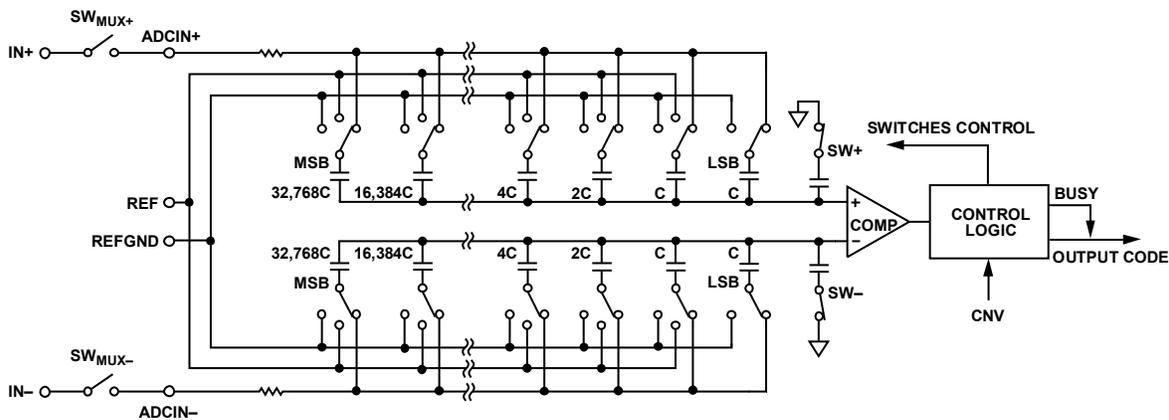
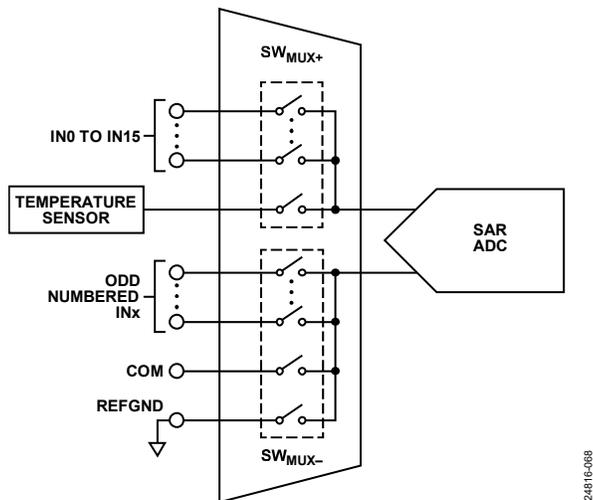
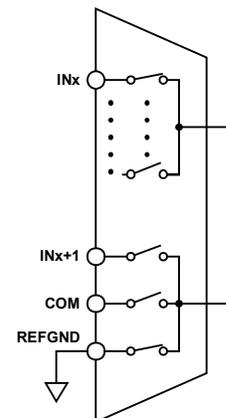

Figure 61. ADC Simplified Schematic
Figure 65. Multiplexer Simplified Schematic
Figure 66. Channel Configuration Option A
The AD4695/AD4696 contain an SAR-based ADC core that utilizes a charge redistribution digital-to-analog-converter (DAC) to quantize the applied input voltage to an output code. Figure 61 shows a simplified schematic of the AD4695/AD4696 SAR ADC core.
The analog inputs and the temperature sensor are connected to the capacitor array inputs (ADCIN+ and ADCIN-) via the internal low crosstalk multiplexer, represented by SWMUX+ and SWMUX- in Figure 61. The multiplexer switches are controlled by the internal channel sequencing logic and are updated once per conversion (see the Multiplexer section and the Channel Sequencing Modes section).
A low crosstalk analog multiplexer routes the signals from the analog input pins to the ADC core inputs. The impedance of the analog inputs are modeled as the parallel combination of the pin capacitance ( $C_{PIN}$ ) and the network formed by the series connection of  $R_{IN}$  and  $C_{DAC}$ .  $R_{IN}$  represents the ADC input series resistance and the multiplexer switch resistance and is typically 240  $\Omega$ .  $C_{DAC}$  represents the ADC sampling capacitive DAC shown in Figure 61, and is typically 60 pF.
The AD4695/AD4696 contain a flexible, low crosstalk analog multiplexer for selecting from the 16 analog inputs and internal temperature sensor and routing them to the inputs of the 16-bit, pseudo differential SAR ADC core. Figure 65 shows a simplified schematic of the internal multiplexer. The  $SW_{MUX+}$  and  $SW_{MUX-}$  switches shown in Figure 61 and Figure 65 represent the multiplexer switches that route the selected channel to the ADC inputs (labeled  $ADCIN+$  and  $ADCIN-$  in Figure 61).  $SW_{MUX+}$  and  $SW_{MUX-}$  are break-before-make and are controlled by the internal channel sequencing logic (see the Channel Sequencing Modes section).
The multiplexer allows flexible analog input channel configuration. The  $SW_{MUX-}$  position is user programmable, and can be assigned to any of the pins shown in Figure 65 (see the Channel Configuration Options section).
The channel configuration settings include pin pairing assignments and signal polarity modes. The pin pairing options assign the position of  $SW_{MUX-}$  for each position of  $SW_{MUX+}$  and determine which signal is routed to the negative side of the SAR ADC core ( $ADCIN-$  in Figure 61). The signal polarity modes configure the  $ADCIN-$  voltage range. Figure 66 shows the pin pairing and voltage ranges for the different channel configuration options.
- Figure 66, IN0 to IN15 paired with REFGND
When the temperature sensor is selected, the multiplexer  $\text{SW}_{MUX+}$  switch (see Figure 65) selects the temperature sensor output and its  $\text{SW}_{MUX-}$  switch selects  $\text{REFGND}$ , and the SAR ADC core samples  $V_{TEMP}$  to generate a corresponding output code. The analog-to-digital conversion of the temperature sensor output utilizes the same transfer function as an analog input configured in unipolar mode with  $\text{OSR} = 1$  (see the Transfer Function section).